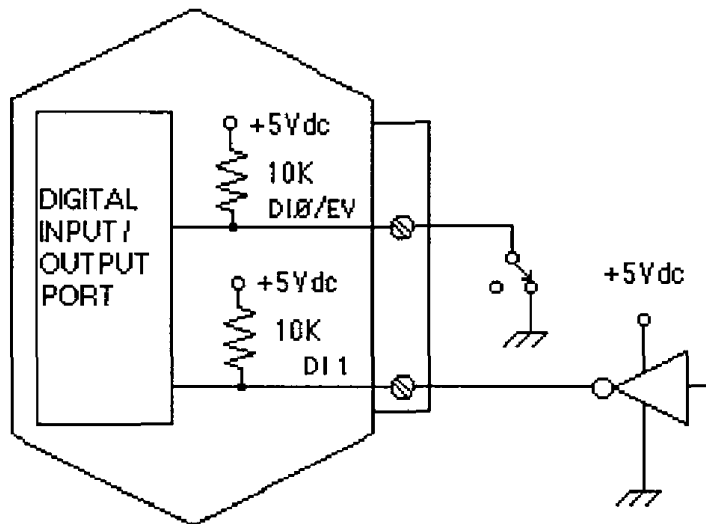

Figure 6.1 Digital Inputs
The inputs are protected to voltages up to  $\pm 30V$  and are normally pulled up to the logic "1" condition (see Figure 6.1). Digital inputs can be read with the Digital Input (DI) command. Voltage inputs less than 1V are read back as '0'. Signals greater than 3.5V are read as '1'.